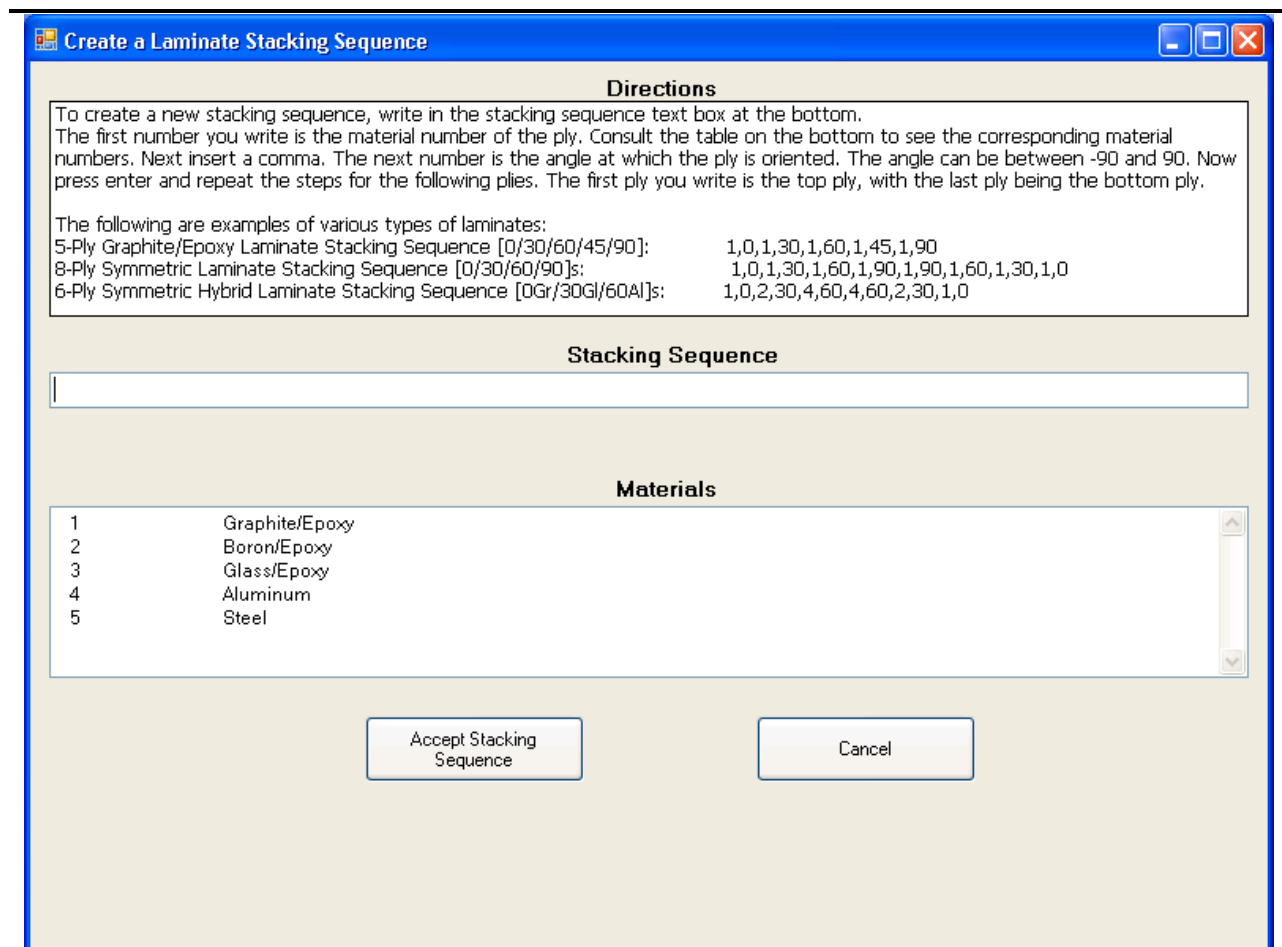

Figure 8. Menu for entering stacking sequence of a laminate
3. Starting from the top of the laminate, put the material number and ply angle in degrees for each ply in the grid separated by commas (Figure 8). For example, a symmetric graphite/epoxy laminate $[30/45]_s$ would be entered as